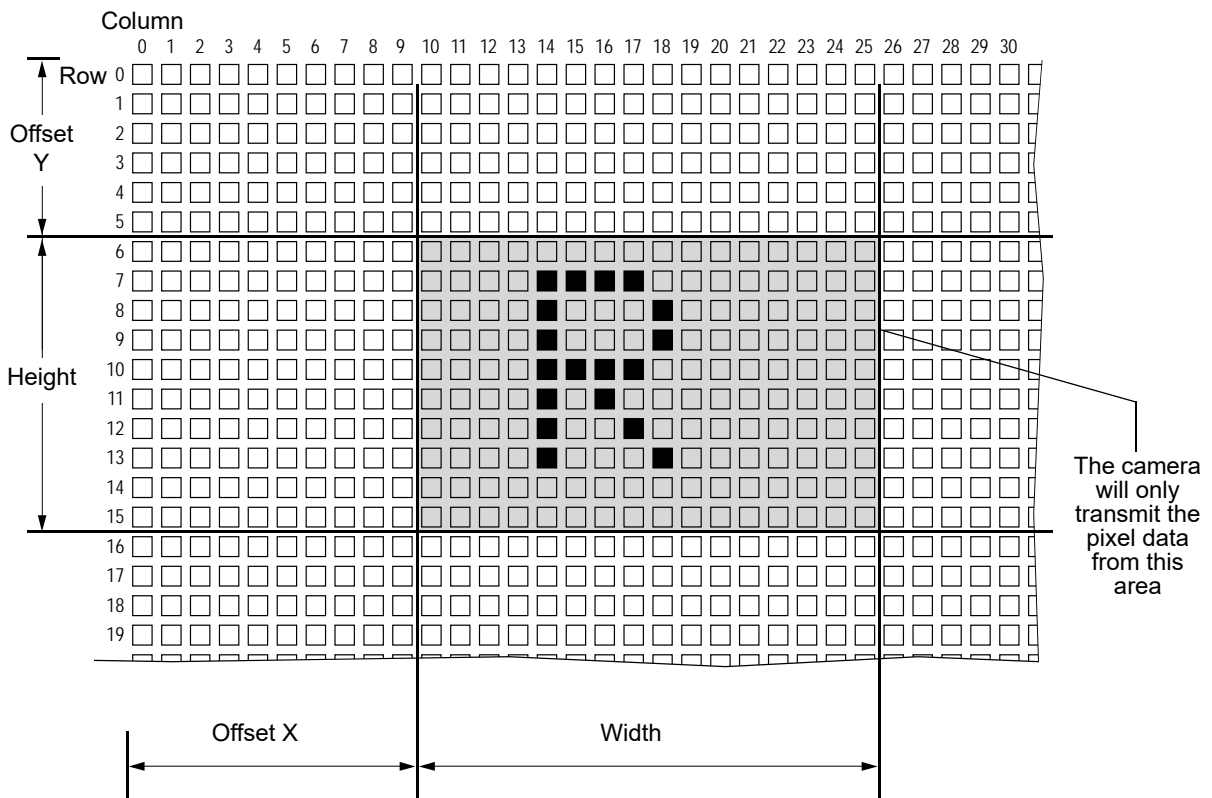

Fig. 46: Area of Interest for Tap Geometries 1X-1Y And 1X2-1Y
- If the camera is set to one of the following Camera Link tap geometries, i.e. **1X-1Y** or **1X2-1Y**: The area of interest is referenced to the top left corner of the sensor array. The top left corner is designated as column 0 and row 0 as shown in Figure 46. The location and size of the area of interest is defined by declaring an offset X, a width, an offset Y, and a height. For example, suppose that you specify the offset X as 10, the width as 16, the offset Y as 6, and the height as 10. The area of the array that is bounded by these settings is shown in Figure 46. If the 1X-1Y or 1X2-1Y tap geometry is selected, the AOI feature also includes Center X and a Center Y capabilities. When Center X is enabled, the camera will automatically center the AOI along the sensor's X axis (and will disable the Offset X setting). When Center Y is enabled, the camera will automatically center the AOI along the sensor's Y axis (and will disable the Offset Y setting).